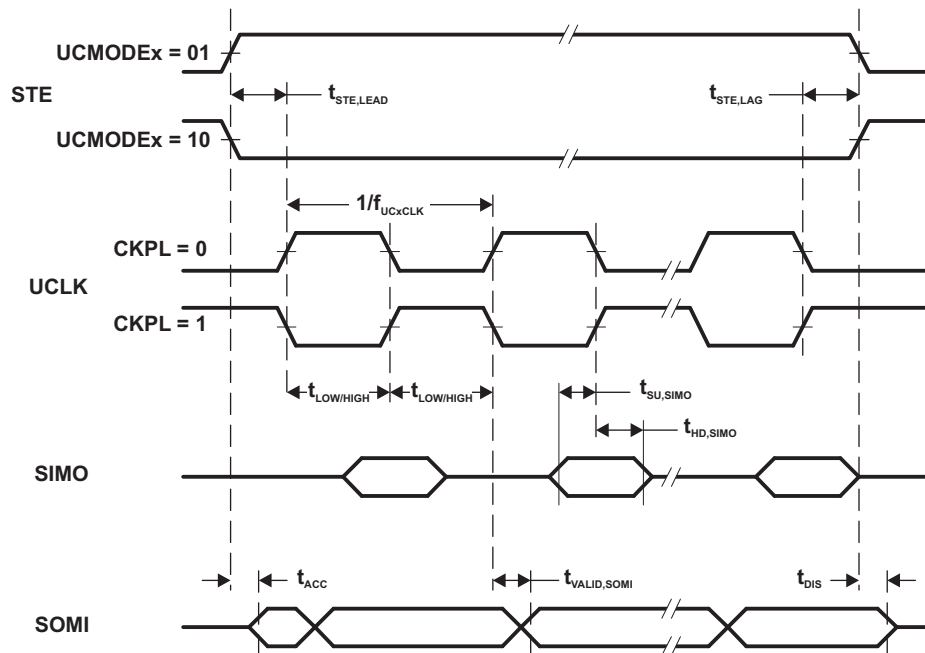
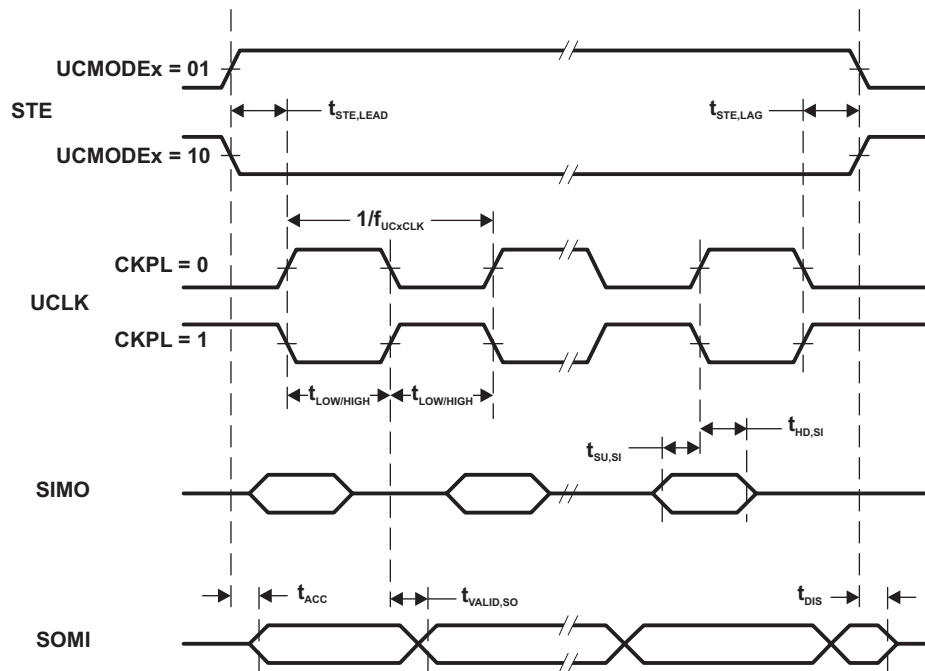

Figure 5-3. SPI Slave Mode, CKPH = 0
Figure 5-4. SPI Slave Mode, CKPH = 1
(2) Specifies the time to drive the next valid data to the SOMI output after the output changing UCLK clock edge. See the timing diagrams in Figure 5-3 and Figure 5-4.
(3) Specifies how long data on the SOMI output is valid after the output changing UCLK clock edge. See the timing diagrams in Figure 5-3 and Figure 5-4.